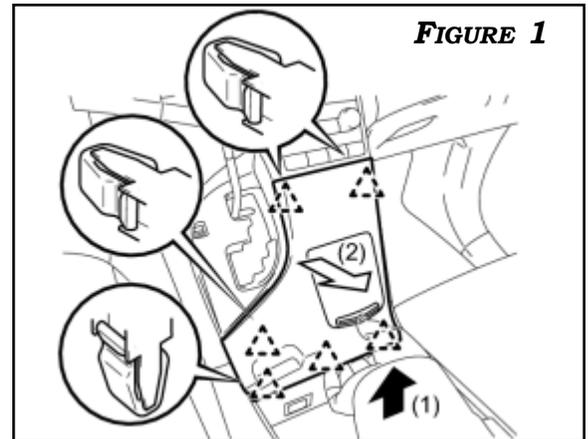

FIGURE 1
1. PULL THE UPPER CONSOLE PANEL SUB-ASSEMBLY IN THE DIRECTION INDICATED BY THE ARROW TO DISENGAGE THE 6 CLIPS AND REMOVE IT. **FIGURE 1**